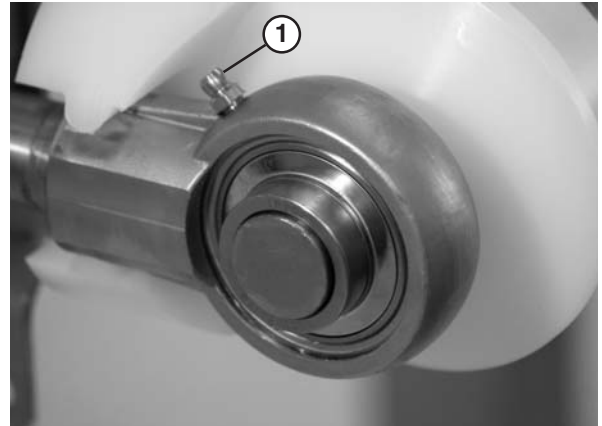

Figure 49
1. Add grease to the bearing using the zerk fitting (**Figure 49, item 1**) on the exterior of the bearing shaft assembly.